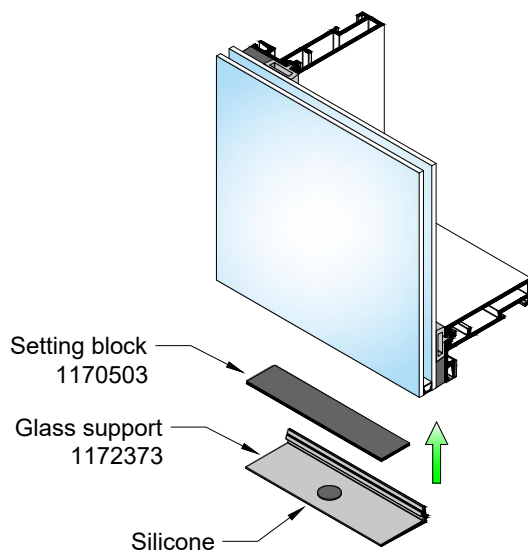

Fig. 19.3
9. If using the 4" glass supports, place a 1 $\frac{3}{4}$ " wide x 4" long x $\frac{1}{16}$ " thick setting block (1170503) onto the support, held in place by a dab of silicone. Snap the glass support into the race at $\frac{1}{4}$ points or specified locations using a plastic hammer. See **Fig. 19.3**